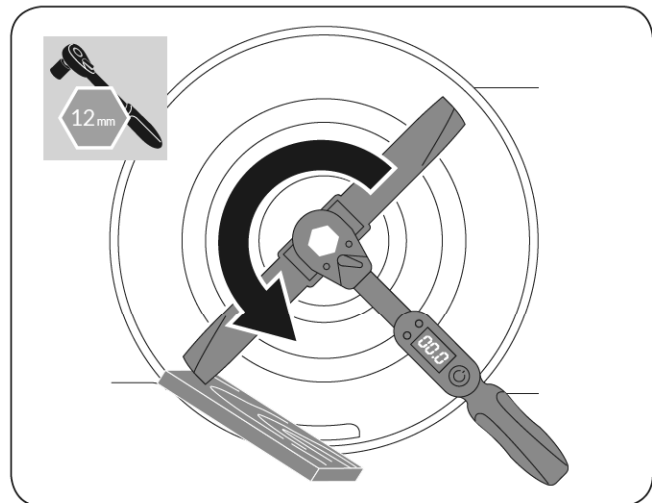

Figure 18
3. Tip the machine onto its side with the air filter and carburetor facing up. Use a block of wood to hold the blade steady. (See **Figure 18**)